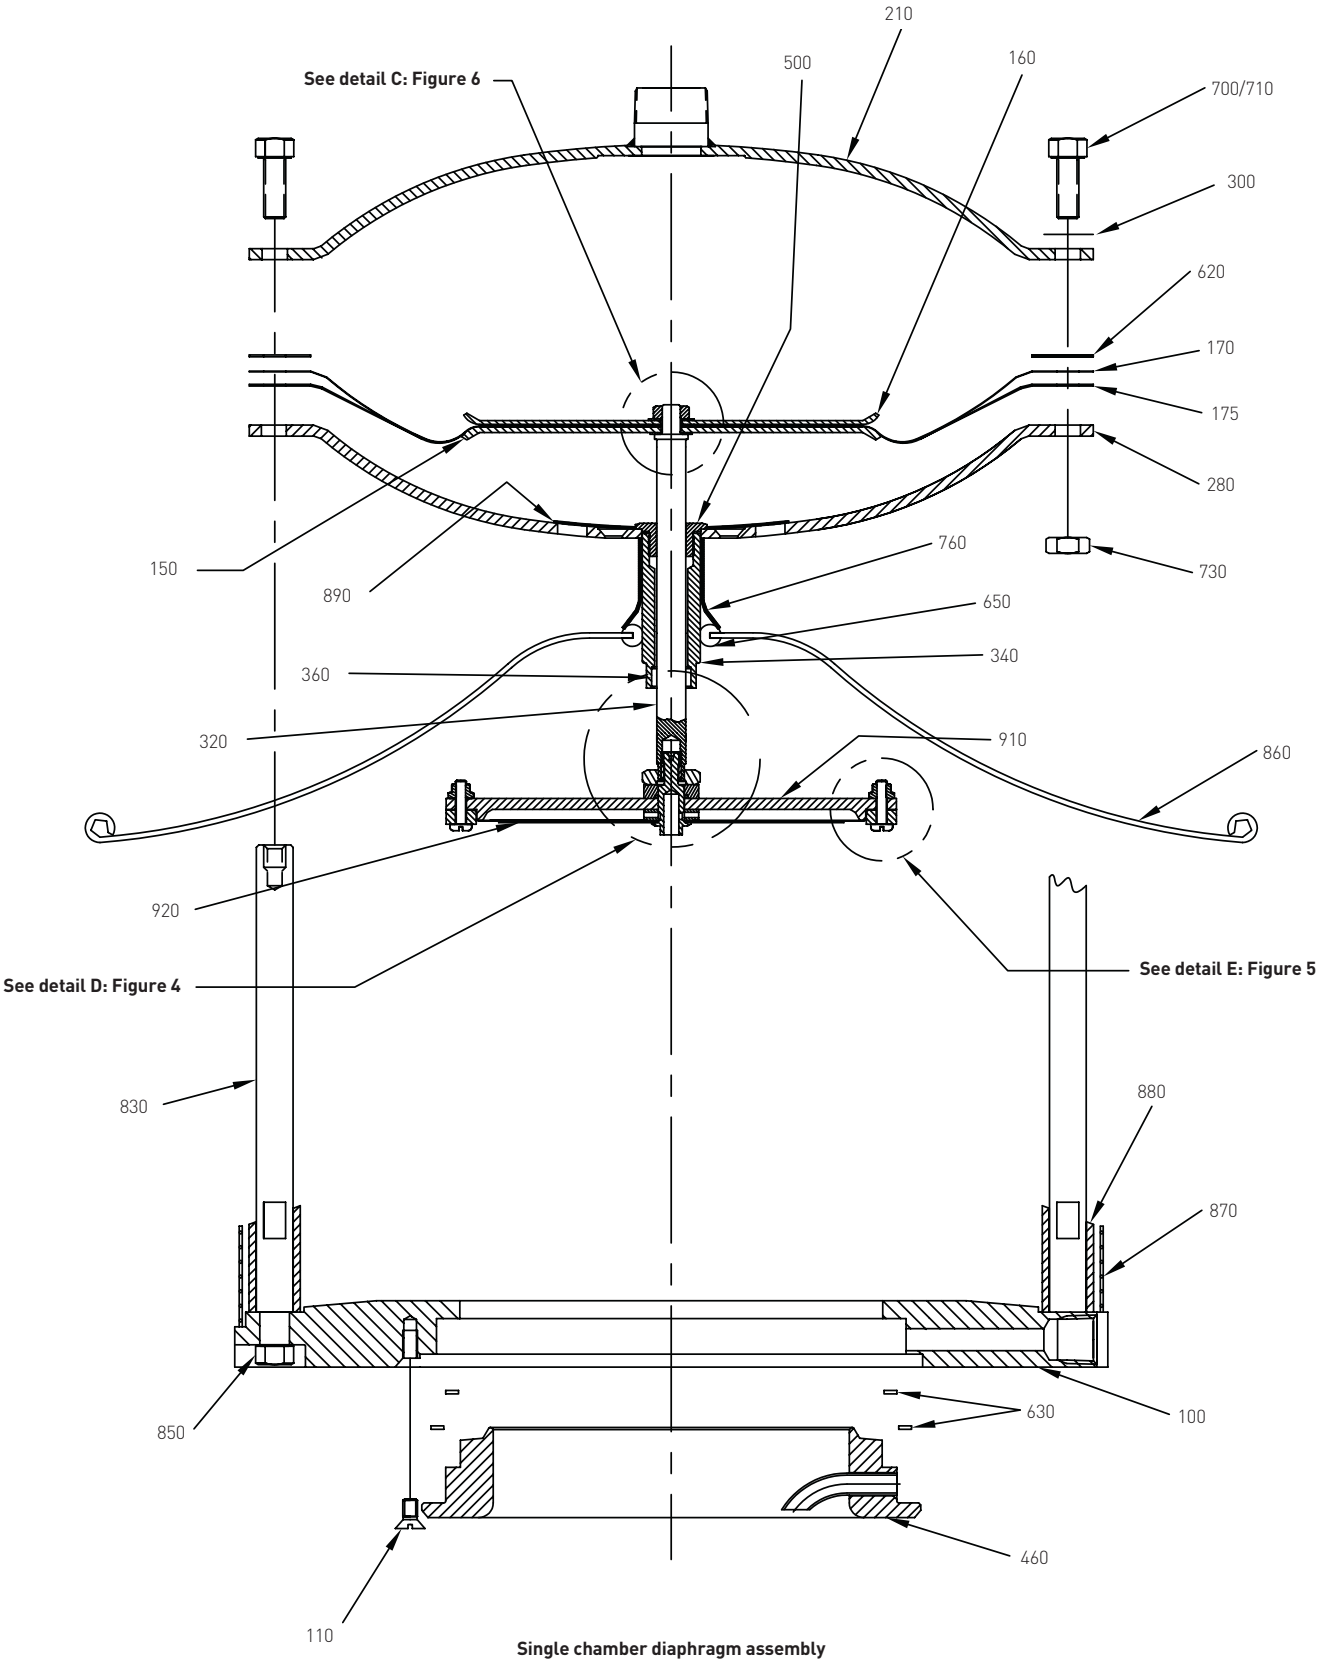

FIGURE 2
(Refer to Figure 2)
2.4 Nozzle replacement (Refer to Figure 2 or 3)
- Remove nozzle retaining screws (110) and gently tap nozzle (460) with soft face mallet.
Note: refer to Figures 2, 4, 5